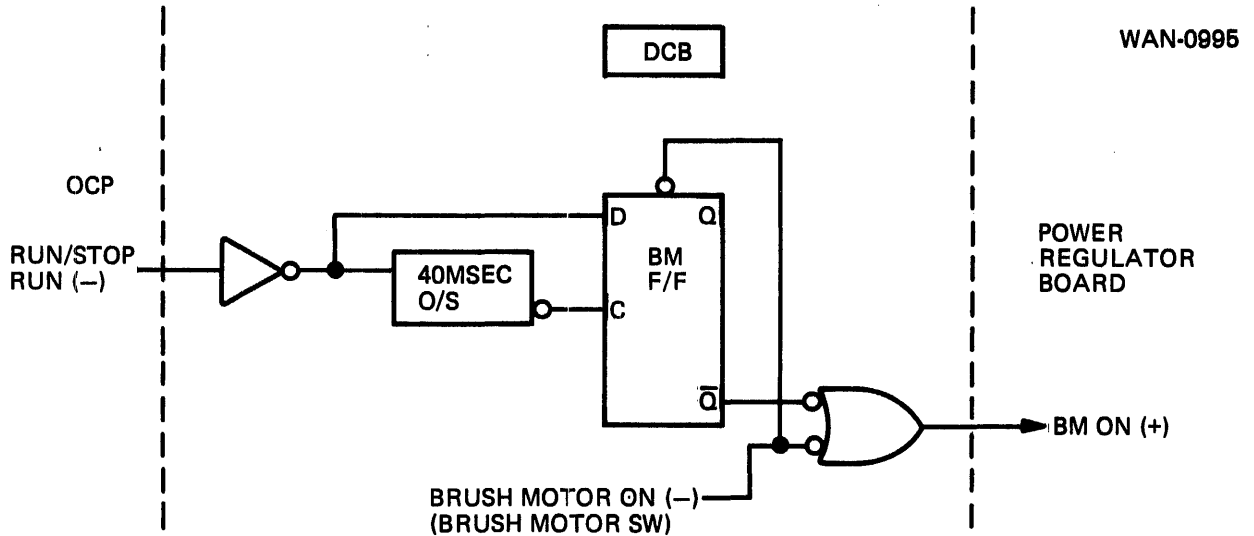

Figure 4-16. Block Diagram of Brush Motor Logic Circuit
4.5.3.7 Brush Motor Logic. The brush motor logic circuit controls the motor used to cycle the disc cleaning brushes. When the BMON output goes high, a return path is provided for the brush motor current. As this condition occurs, the brush motor is activated and the brush cycle starts. A block diagram of the brush motor circuit is shown in Figure 4-16.